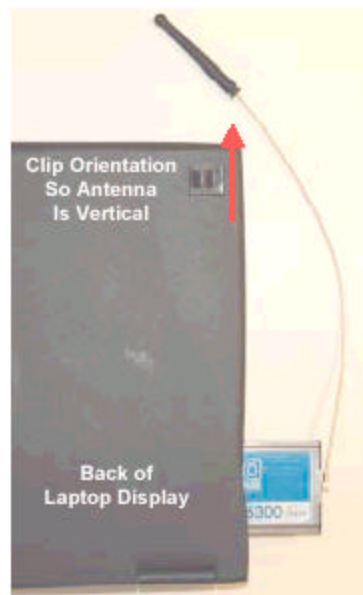

Figure 11. Mounting the Antenna Clip
3. Attach the Antenna Clip to the back of the laptop computer display approximately 1 inch from the top corner of the display as shown in Figure 11. Ensure that the location selected for the Antenna Clip will reach the WMC6300 with the provided cable length.